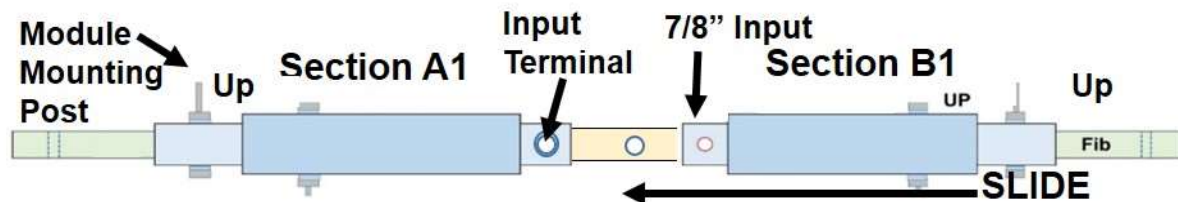

FIGURE 5
- (1) 1/4" SS collar lock washer.
- Section A1 has a fiberglass rod (11800) extension pre-assembled at INPUT terminal of section A1. Place and align sections A1 and B1 on a flat surface (4 → 6 ft long table), as shown in **FIGs 5 and 6**. **Be sure the module mounting posts at each end of each section are facing in same direction (UP), when terminals / holes are horizontal (FIG. 5).**
- **STEP 6.3** Slide the 7/8" input of section B1 over the 3/4" rod, until the holes of section B1 input align with the hole in the fiberglass rod (**FIGs 5, 6 and 7**):